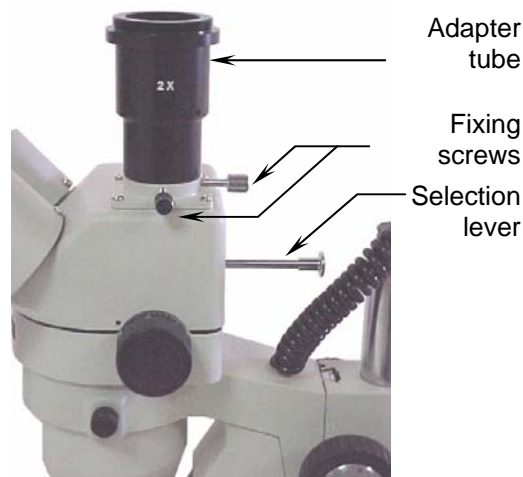

Fig. 2
At the back of the head there is a selection lever (Fig. 2) that transmits the image to the vertical port. In an extended position the image is transmitted to the vertical port, but the image cannot be seen by the right eyepiece.
2. Loosen the knurled screw (Fig.2), situated on the side of the vertical port on the head, sufficiently enough to remove the protective cover.
1. Loosen the knurled screw (Fig.2) on the side of the vertical port of the head sufficiently enough to remove the protective cover.